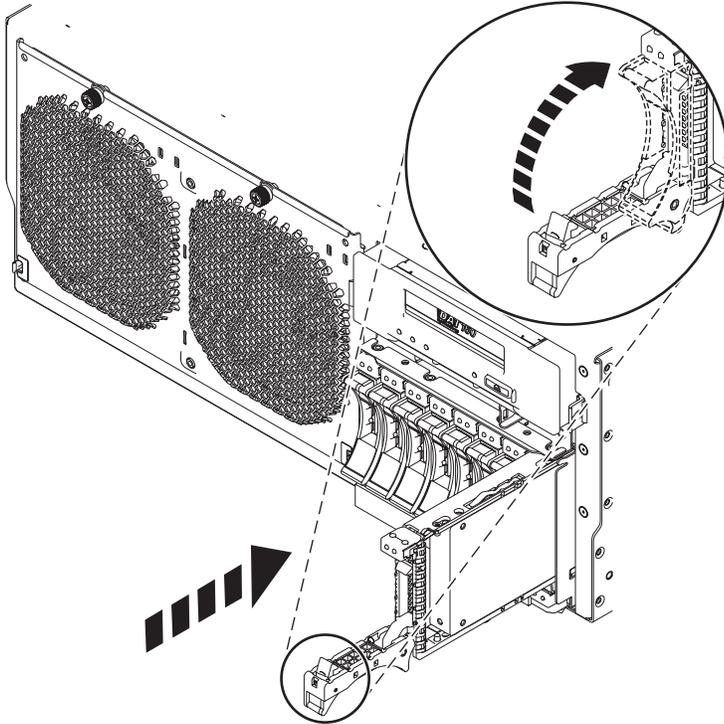

Figure 31. Replacing a disk drive in the system
7. When the identify LED flashes, slide the disk drive or solid-state drive all the way into the system or an expansion unit, and push the drive handle (A) in until it locks, as shown in Figure 31 on page 52.